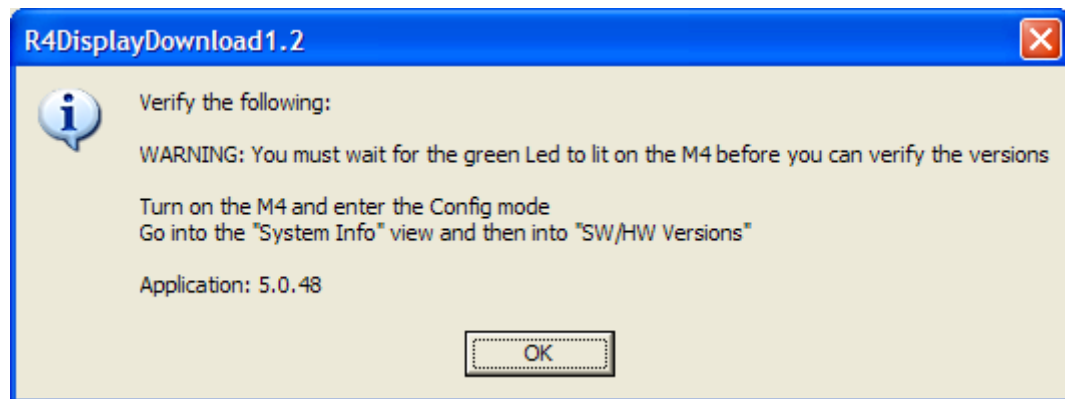

Figure 5 R4 Display Download Pop-Up Window Showing How To Verify Software Version
12. When the software loading is complete R4 Display Download will ask the user to turn on the R4 Display and verify that the correct software versions have been loaded (Figure 5). It should be noted that the first boot-up after software update could take some time (up to 2 minutes). When the versions have been verified the software update is complete.